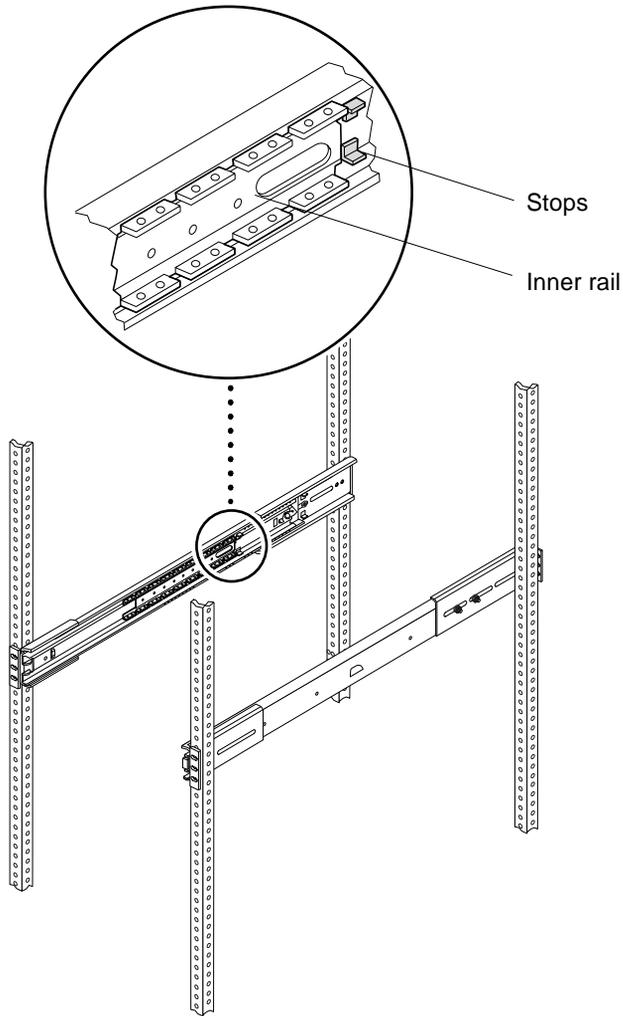

FIGURE 9-12 Pushing in the Runner
1. **Push the runner on each slide assembly as far back as possible into the slide assembly (FIGURE 9-12).**